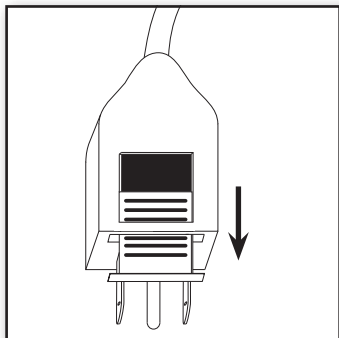

Figure 4
2. Slide the door on top of the plug towards the blades. Figure 4.